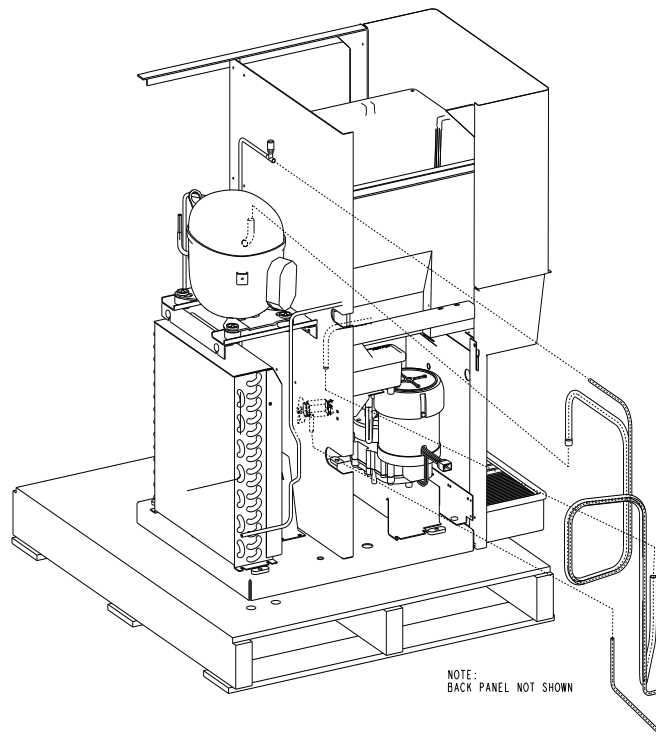

Figure 7. Connection of the Suction HX assembly
9. Connect the Suction HX assembly as shown in Figure 7.